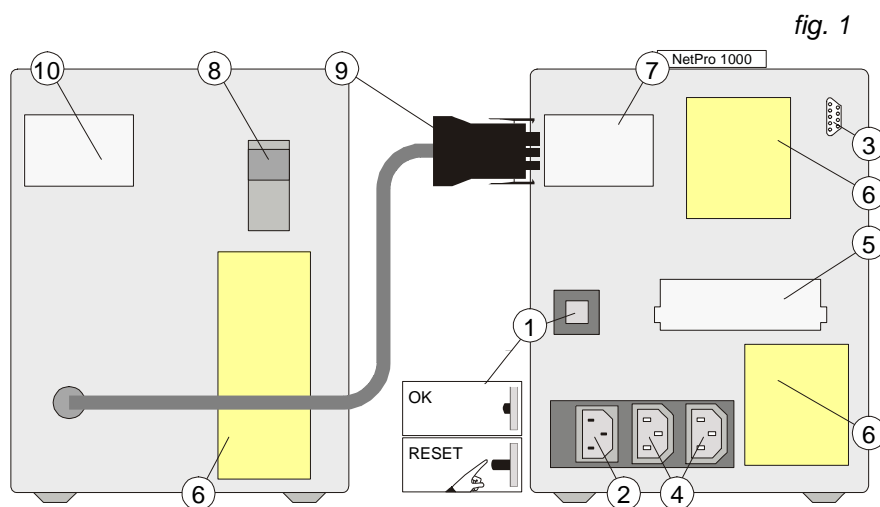
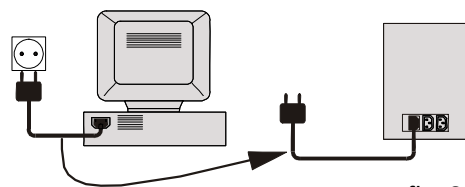
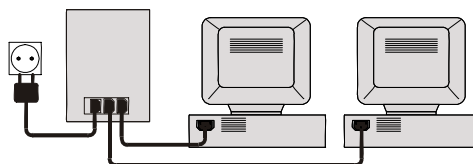
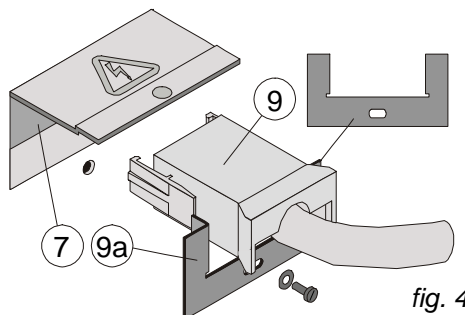

fig. 1
fig. 2
fig. 3
fig. 4
- the total power demand of the connected equipment does not exceed the rated output power of the NetPro UPS (indicated on the rating label). (6, fig. 1).
- 2 Disconnect the power cord from the computer (rating 250Vac/10A) and connect this cord to the male input socket (2, fig. 1) at the rear of the UPS. See fig. 2.
- 3 Using the output cords provided, connect the computer to the appliance outlets (4, fig. 1) of the unit. Spread the loads over the appliance outlets as equally as possible. If you use a distribution box to connect more than one appliance per outlet, please note that the maximum AC-current rating of each appliance outlet is 10A. See fig. 3.
- 4 *NetPro 1000 only.* Battery extension pack(s) can be installed to increase the battery runtime. Open the fuse holder of the battery pack (8, fig. 1) and check that the fuse has been removed. Connect the DC connector of the battery pack (9, fig. 1/4) to the DC socket of the UPS (7, fig. 1/4). You will hear a click when the cable is properly installed. Block the DC connector: install the small locking plate (9a, fig. 4) that came with the battery pack, and fasten it with the screw provided. Insert the fuse of the battery pack and close the fuse holder. Using the DC connector of the battery pack (10, fig. 1) you can install a second, third, etc. pack. See 5.1 for more information.
- 7 For advanced communication possibilities, the RS232 interface port (3, fig. 1) can be connected to a computer system and/or optional interface cards (5, fig. 1) can be added. See chapter 4.